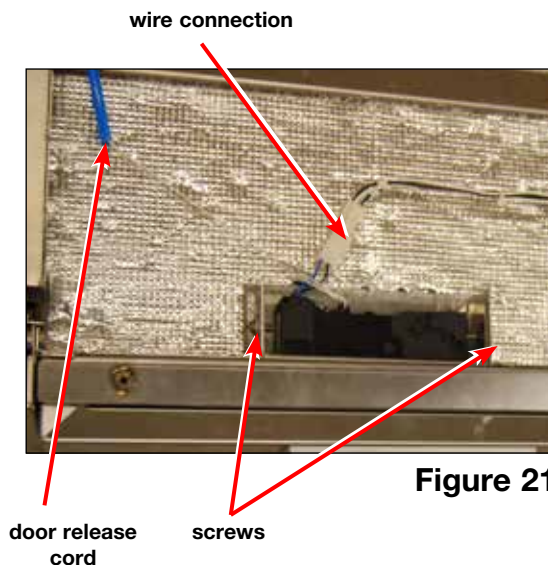

Figure 21
2. Disconnect the door release cord and wiring from the latch assembly. (Figure 21)
3. Remove the screws from each side and remove the latch assembly. (Figure 21)